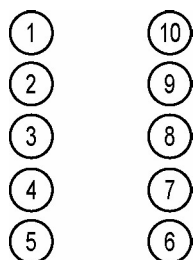

Figure 2. Suspension Lines Orientation
b. Locate suspension lines 1 and 10 and follow them to the riser. Remove all twists. Repeat for remaining lines. Ensure drogue parachute suspension lines are sequentially attached to riser (Figure 2).